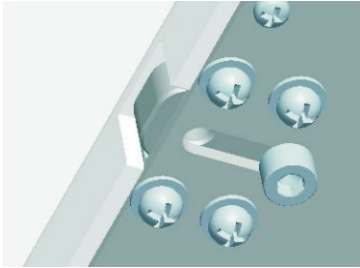
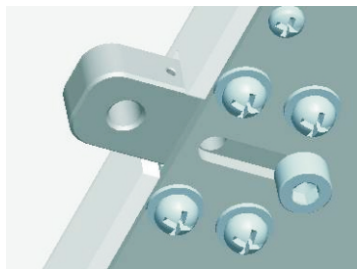

Figure 1-4. Loosen Inner Hexagon Screw
Figure 1-5. Support Base Out
- a. Loosen the inner hexagon screw on the bottom of the unit, pull the round head of the inner hexagon screw out as the arrow direction (see Figure 1-4) until a support base is pulled out (see Figure 1-5), then tighten the inner hexagon screw. Repeat Step a for other three support bases to be extended.